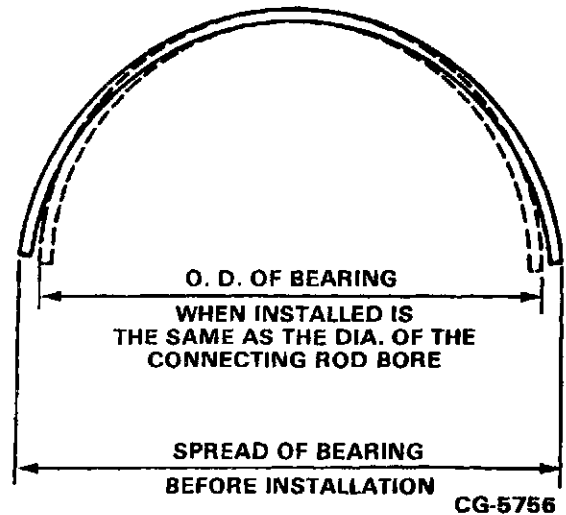

Figure 6.34. Bearing Spread
**NOTE: ABOUT BEARING CRUSH AND SPREAD!** Bearing shells must fit tightly in the bore. When bearing shells are inserted into the connecting rod and cap, they protrude above the parting line. This protrusion is required to achieve "BEARING CRUSH". Bearing shells are designed with "SPREAD". That is, the width across the open ends are slightly larger than the diameter of the connecting rod bore into which they are assembled, as shown in Figure 6.34. This condition is designed into the bearing shell causing it to spread outward at the parting line when "CRUSH" load is applied by tightening the bolts. Some snap may be lost in normal use, but bearing replacement is not required because of a nominal loss of snap.